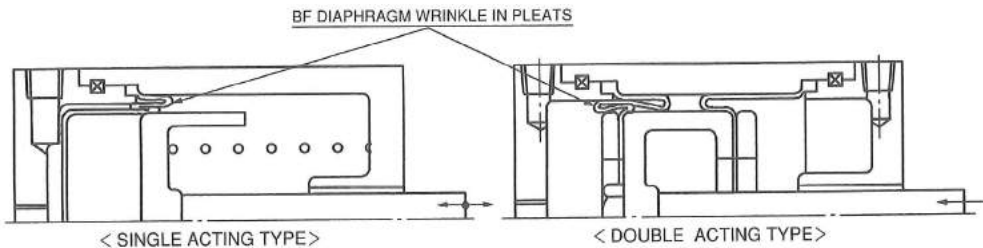

Fig.1
- a) Do not move Rod externally with no operating pressure applied for preventing BF Diaphragm's wrinkling in pleats. (Fig.1)